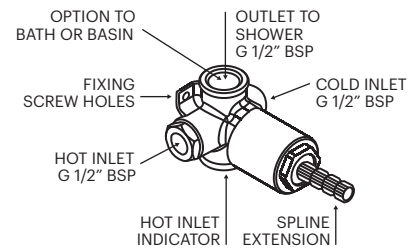

Fig 2
- Connect water supply to points as illustrated in Fig 2. Do not apply heat to the mixer or pipework connected near the mixer. Damage to the ceramic cartridge caused by heat will void the warranty.